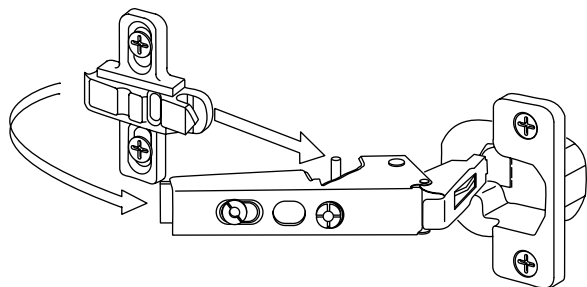

FIGURE 35
1. Reinstall the lower assembly doors (see Figure 35) and drawers.